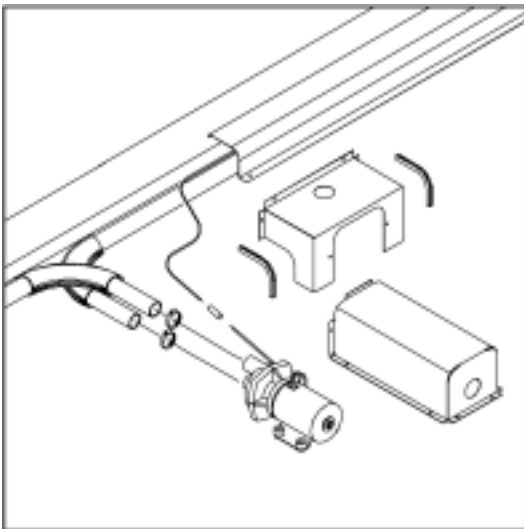

Figure 8—Auxiliary Heater (Heavy Duty Option Shown)
Optionally, an auxiliary booster pump is located in the coach heater system, to help maintain circulation at a rate sufficient to provide warm air to the coach. **Figure 8.**
2. Remove hose clamps at the auxiliary pump. **Figure 8.** Tag the hoses for later installation.